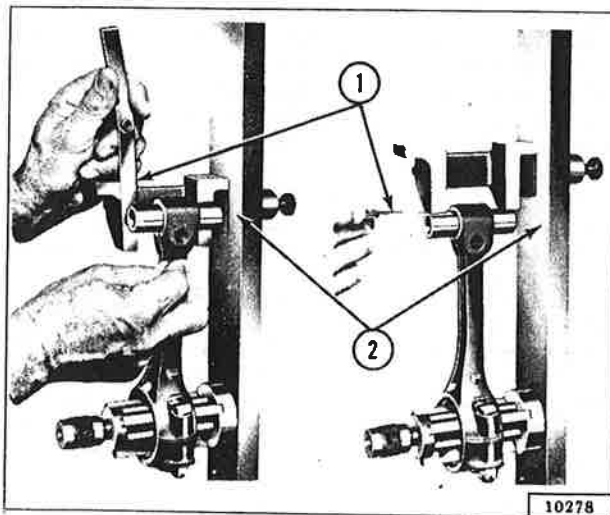

FIG. 36—CHECKING CONNECTING ROD ALIGNMENT
b. Check and if necessary correct connecting rod alignment using a connecting rod aligning fixture (such as the one shown in Fig. 36) in accordance with the instructions furnished with the fixture.